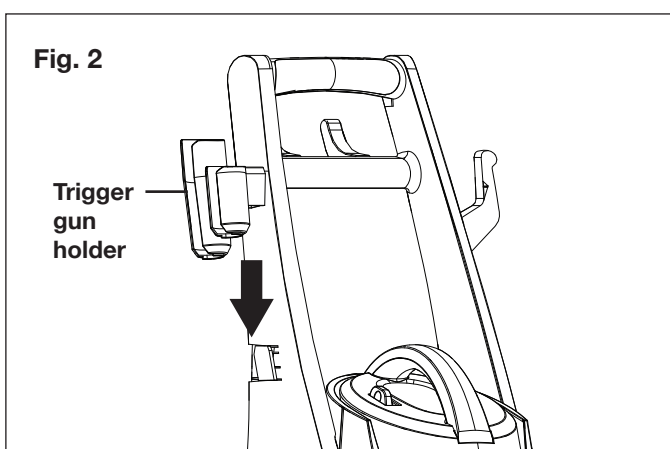

Fig. 2
2. Slide the trigger gun holder into position (Fig. 2).